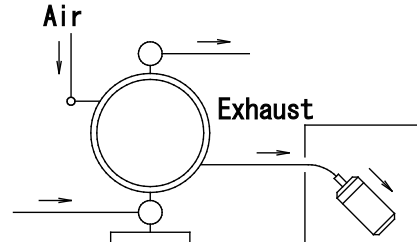

Fig.3.2
*Exhaust should be directed outside, not into the fluid in which the pump is submerged. For information on how to arrange the exhaust, see NOTE: Arranging outside exhaust and Fig.3.2 below.